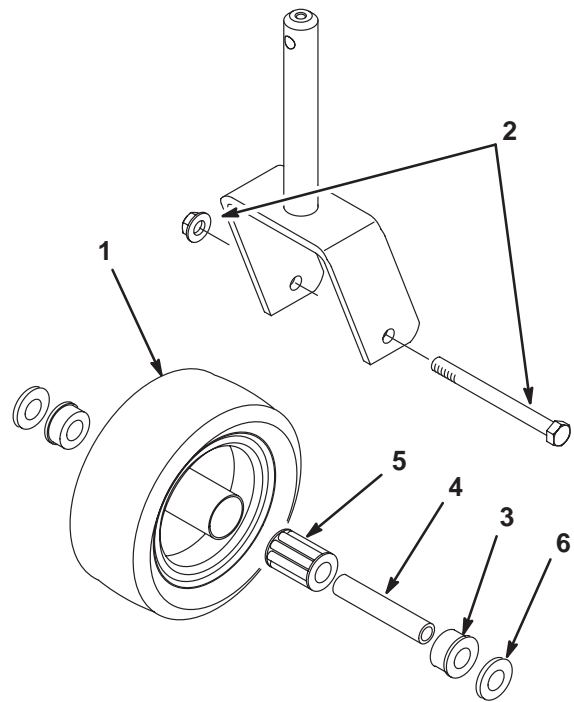

Figure 33
1. Remove the locknut from the capscrew holding the castor wheel assembly between the castor fork (Fig. 33). Grasp the castor wheel and slide the capscrew out of the fork.
2. Pull the spanner bushing out of the wheel hub (Fig. 33).
5. To assemble the castor wheel, push the bushing into the wheel hub. Slide the bearing into the wheel hub. Push the other bushing into the open end of the wheel hub to captivate the bearing inside the wheel hub (Fig. 33).